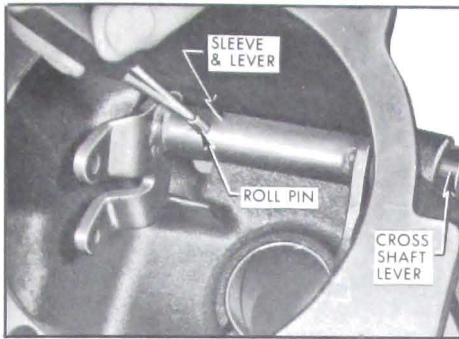

Figure 5-98—Removing Cross Shaft and Sleeve
8. Drive roll pin out of cross shaft and remove cross shaft and lever assembly and cross sleeve and lever. See Figure 5-98.
3. Hold valve operating lever and shaft in position inside retainer and slide cross shaft through bushing and seal inside valve operating lever and sleeve. Line up holes and drive roll pin into place. See Figure 5-98.